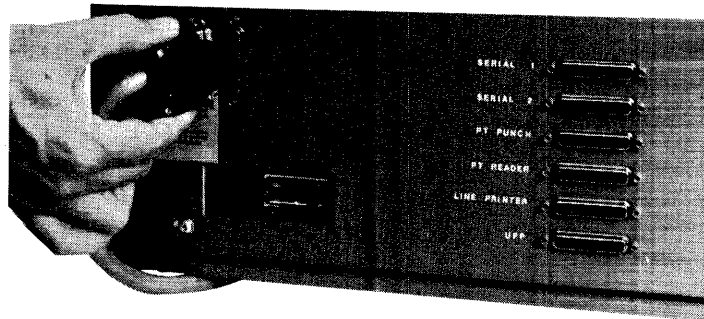

Fig. 2-6 Keyboard Connection
3. Plug the keyboard cable into the keyboard socket on the back of the main chassis (Figure 2-6).